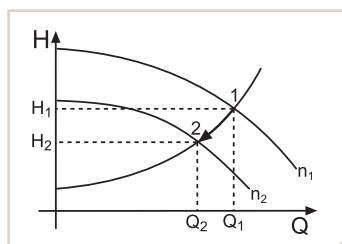

Fig. 7.3.2g Controlling pump speed
The connection between capacity (Q) and head (H) when changing the impeller speed is shown in fig. 7.3.2g.